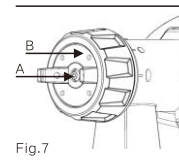

Fig.7
- 5) When coating material builds up on the nozzle (A) and air cap (B) (Fig. 7), clean both parts with a solvent or water.